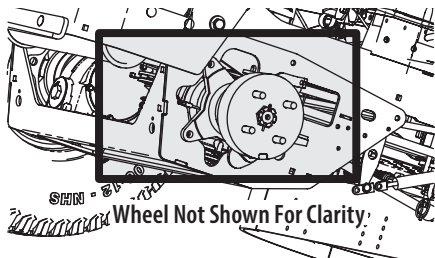
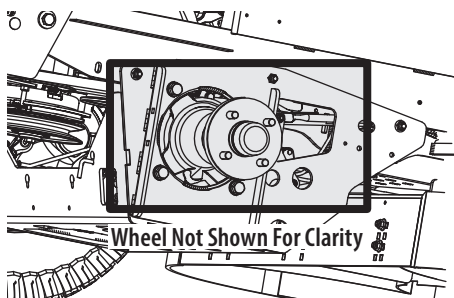

Figure 33
Figure 34
- Clean around and near the transmission, axle and the fan area (Figure 33 for Parker transmissions and Figure 34 for Hydro-Gear transmissions).